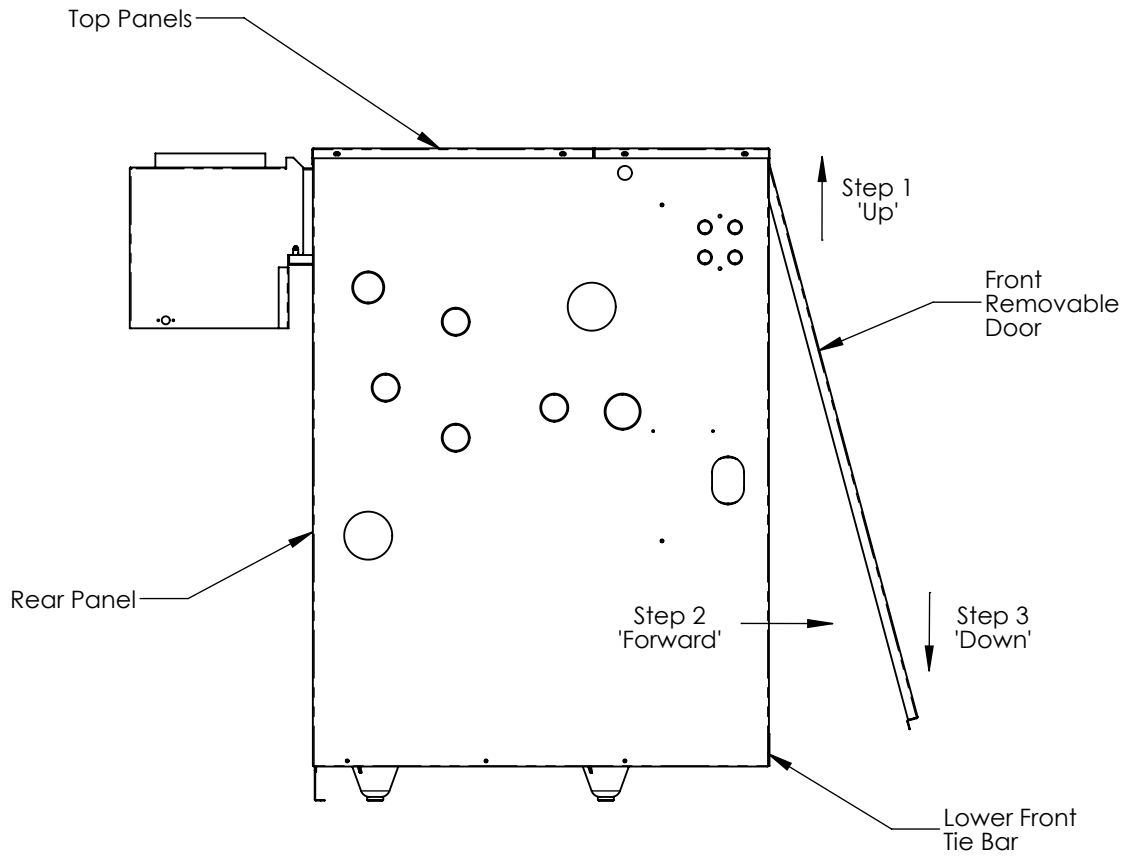
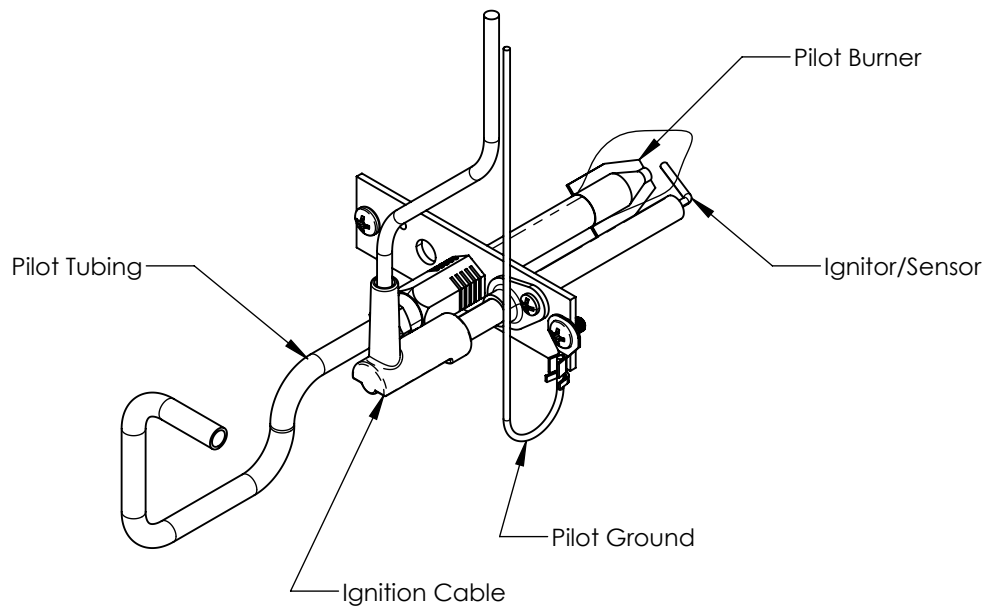

Figure 10-2: Front Door Removal
Figure 10-3: Pilot Burner Flame
11. Observe pilot burner flame visible through observation port. See Figure 10-2 for front door removal. A steady medium blue flame will cover ignitor/sensor. See Figure 10-3.